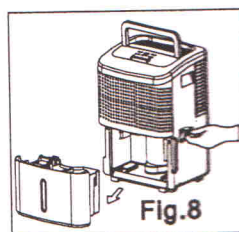

Fig.8
- Lift up the side flap located on the right side of the unit as looking from the front. (Fig.8)